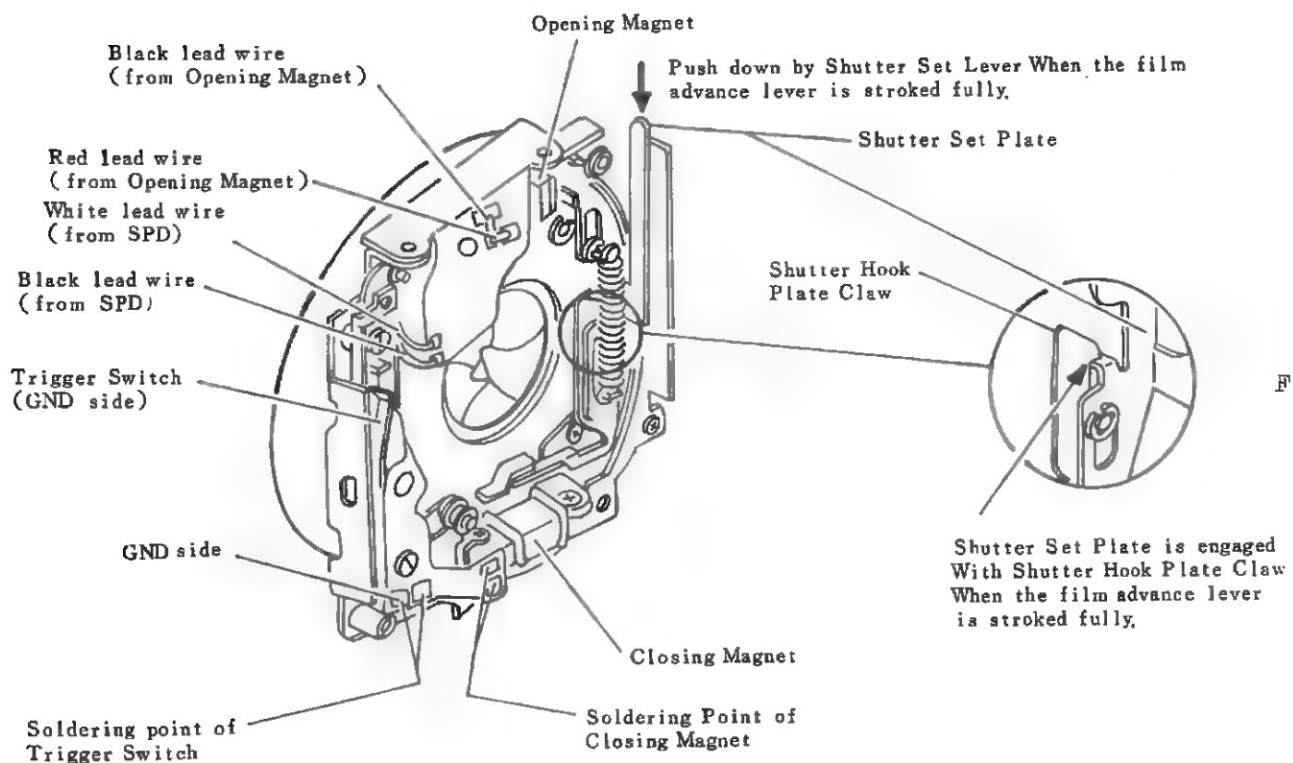

Fig 92
(11) Short circuit between Trigger Switch (GND side) and camera body. See (Fig 92)
(12) Malcontact of Trigger Switch.